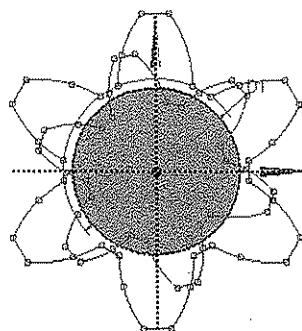

Figure 5-82 Sketch copied on Plane6
42. After the copied sketch is rotated and scaled, paste it on the origin. To do so, right-click in the **Graphics** window and then choose **Paste at Plane Origin** from the shortcut menu displayed; the modified sketch section is pasted on Plane6, as shown in Figure 5-82.